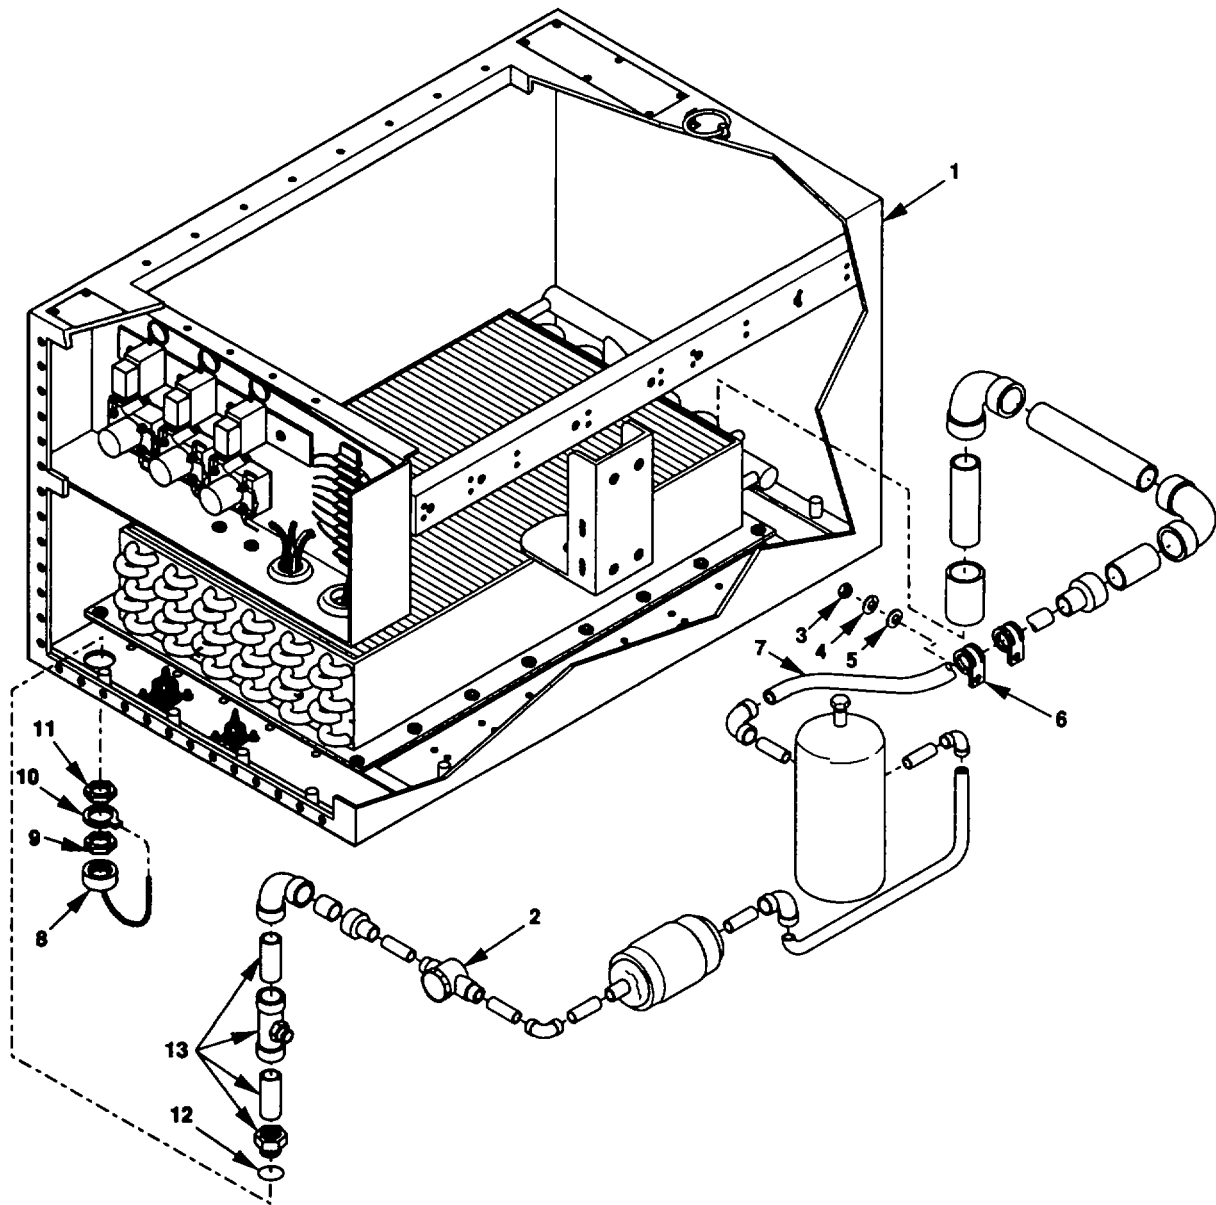

Figure 5-7. Condenser Tubing and Fittings maintenance.
- (1) Inspect all components for cracks, bends, breaks, ruptures, or open tubing or fittings.
- (2) Pressurize condenser assembly (Figure 5-7, 1) to a minimum of 70 psi and inspect liquid/moisture indicator (2) for broken sight glass and leaking tubing and fittings.